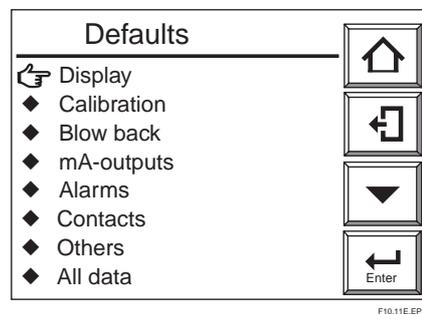

Figure 10.11 Defaults Display
- (1) Press the Setup key in the Basic panel display to display the Execution/Setup display. Then choose Setup.
- (2) Select Others from the “Commissioning” (Setup) display.
- (3) Choose “Defaults.” The “Defaults” display shown in Figure 10.11 appears.